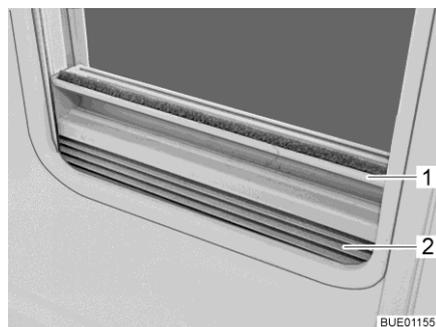

Fig. 74 Roman shade
- Grip the Roman shade (Fig. 74,2) in the middle of the holding bar (Fig. 74,1), pull it upwards and then release it at the desired height. The Roman shade will stay at this height.